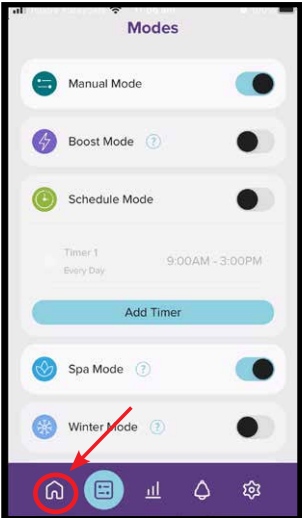

Figure 9.71
- Return to the dashboard now by using the home button (refer Figure 9.71).